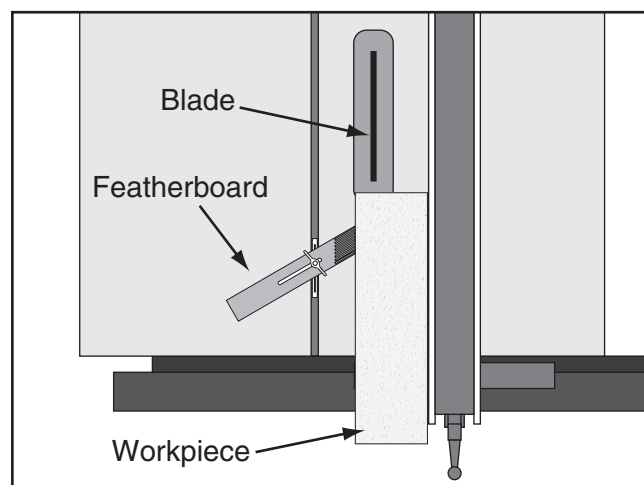

Figure 72. Featherboard installed in miter slot and supporting workpiece for ripping cut.
3. Slide the featherboard miter bar into the miter slot, making sure the fingers point toward the blade, as shown in **Figure 72**.